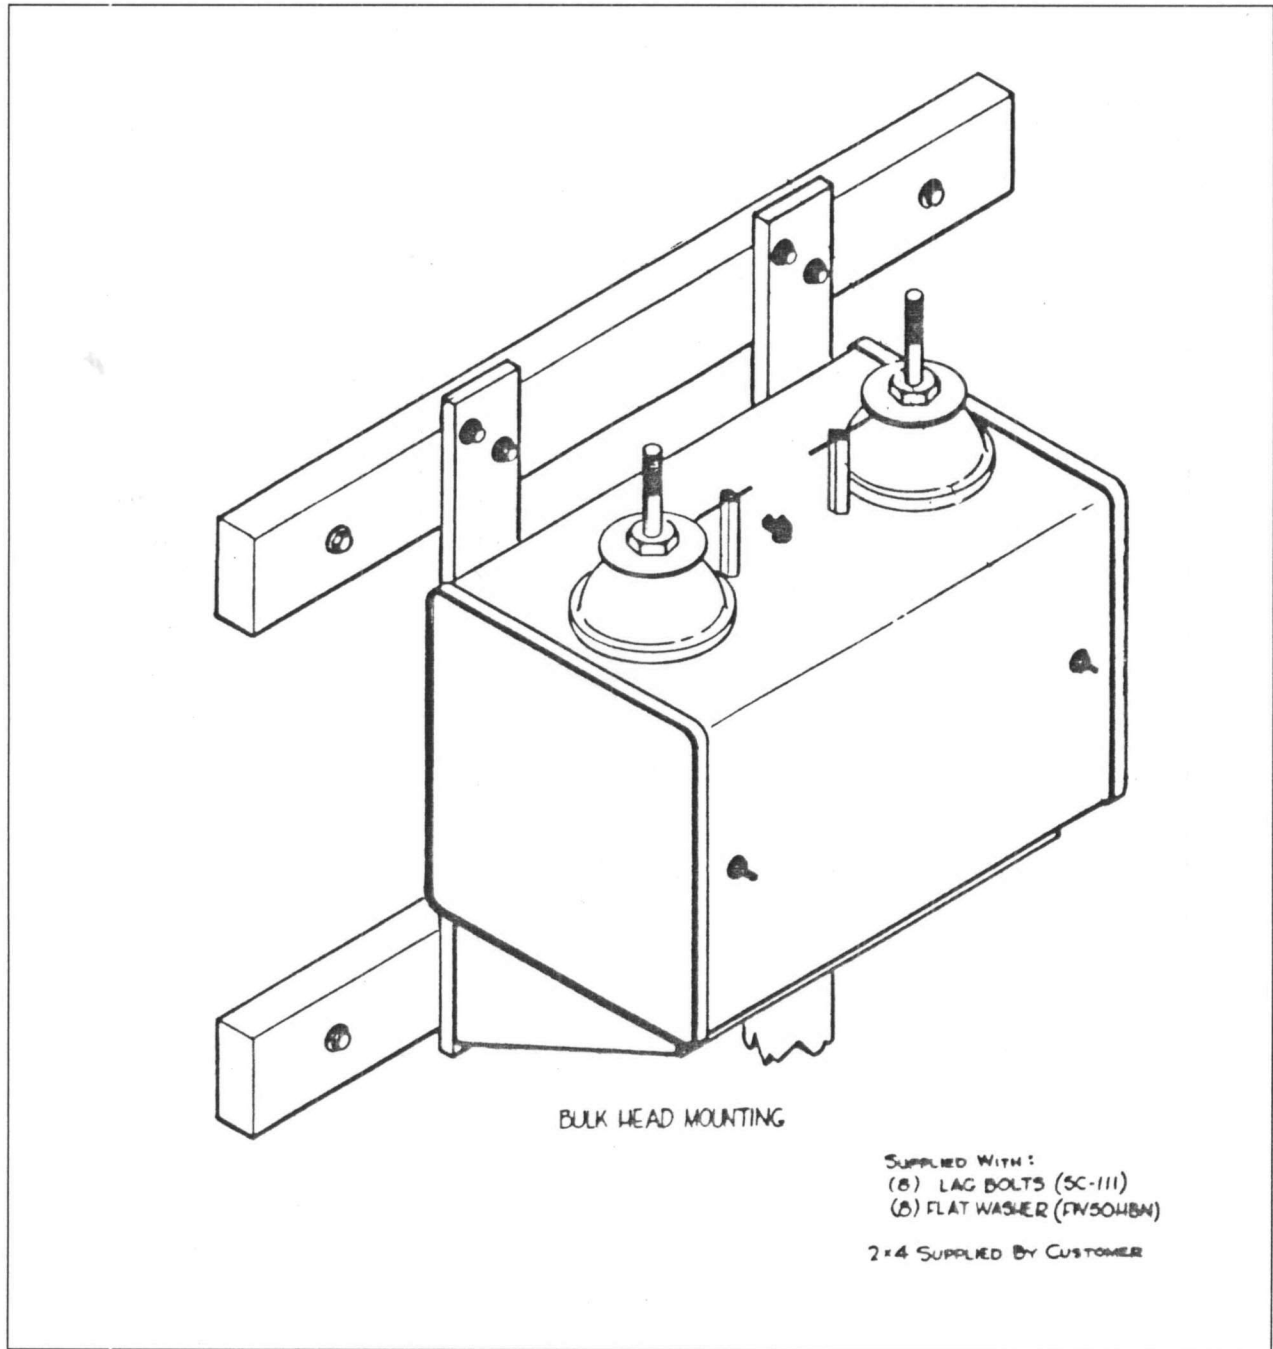

Figure 2.4 Recommended Bulkhead Mounting
- Figure 2.4** **Recommended Bulkhead Mounting**